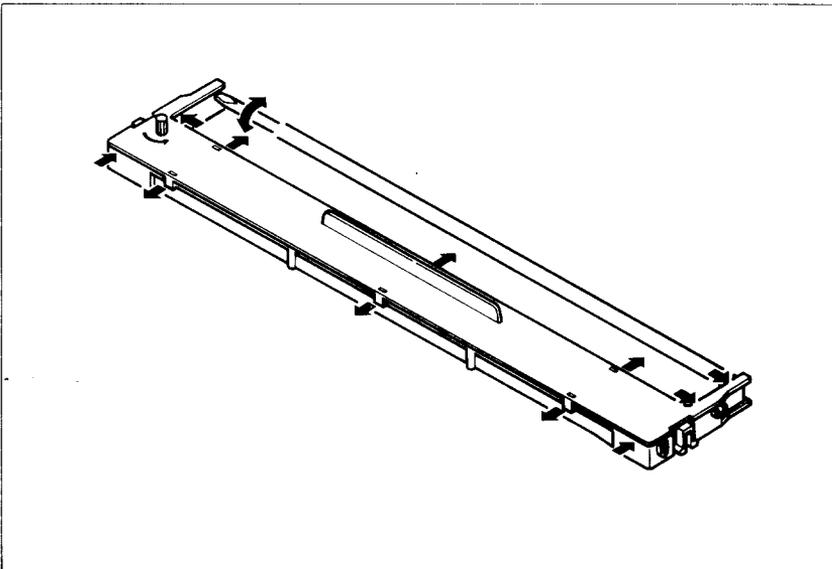

Figure 8-1. Unhook tabs to pry open the cartridge.
1. Place the cartridge on a flat surface, and use a flat-bladed screwdriver to unhook the tabs holding the two sections of the cartridge together. See Figure 8-1.